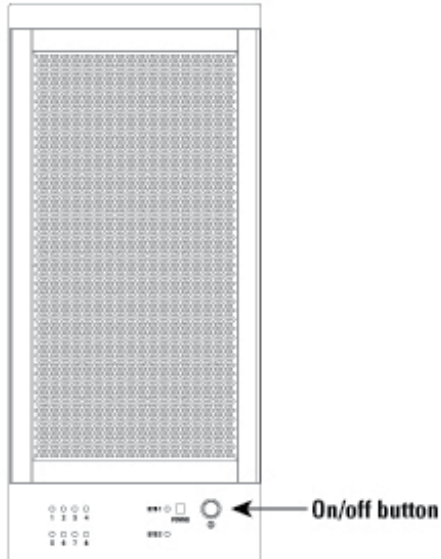

Fig. 18
2. Switch off the device (fig. 18).